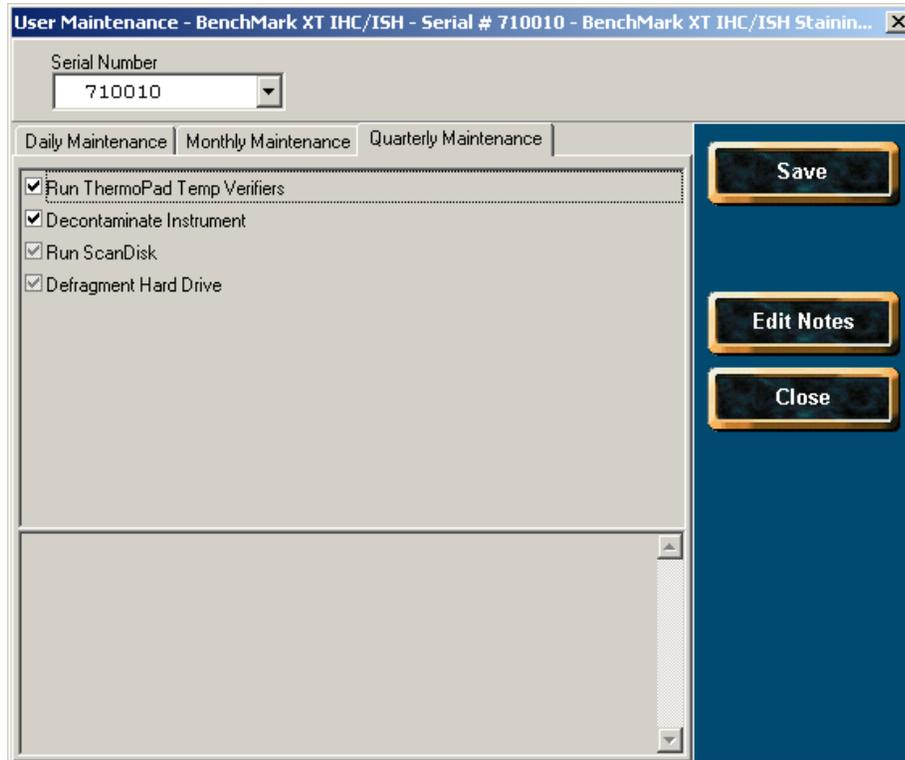

Figure 209. Quarterly Checklist
- Figure 209 shows the reagent bar code reader and lens.